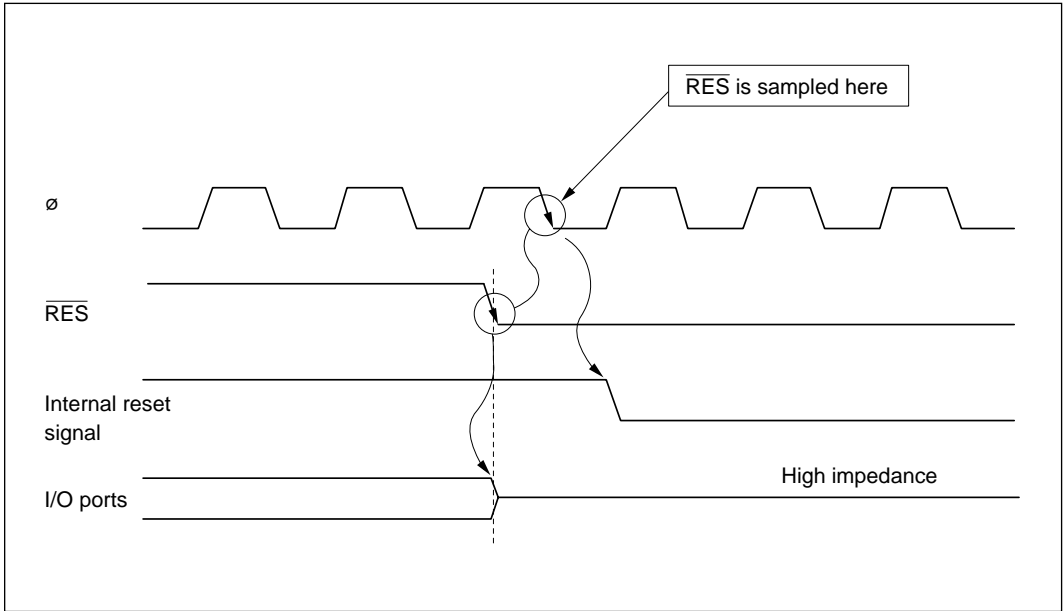

Figure G-5 Resetting of I/O Ports (mode 7)
(5) **Mode 7:** Figure G-5 is a timing diagram for the case in which $\overline{\text{RES}}$ goes low in mode 7. As soon as $\overline{\text{RES}}$ goes low, all ports are initialized to the input state.